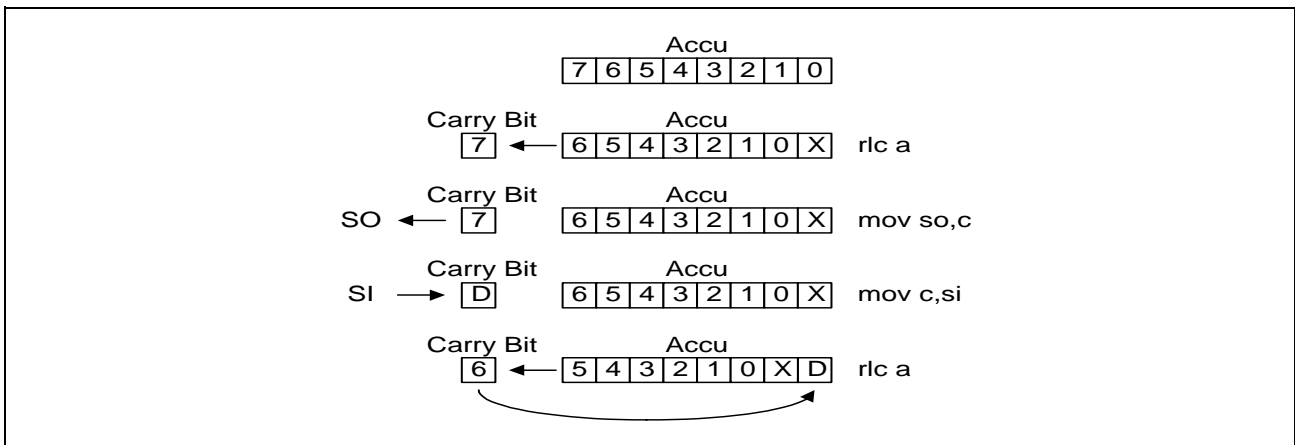

Figure 6 :
The separation of single bits can be achieved by rotating the relevant bit into the Carry Bit, which is bit accessible. With this principle single bits can be transferred to a dedicated output pin (SO). With the same principle the data applied on an input pin (SI) can be copied into the Carry Bit and will be transferred with the next left rotation to position 0 of the Accu. After the transmission of 8 bit the Accu contains the received byte. The basic principle is illustrated in figure 6.